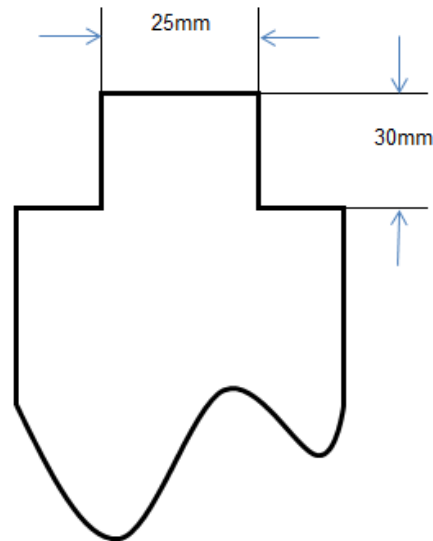

Figure 1 – Duck Cloth Cut Out
2. Cut and remove excess material, leaving a tongue of 25 mm x 30 mm at one end. (See Figure 1)